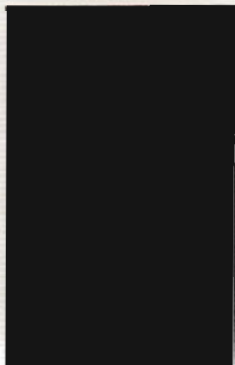

Figure 4
The muting switch ⑱ when depressed, partially mutes the common speaker. The pilot light ⑲ shows when the speaker (Figure 4) is muted.